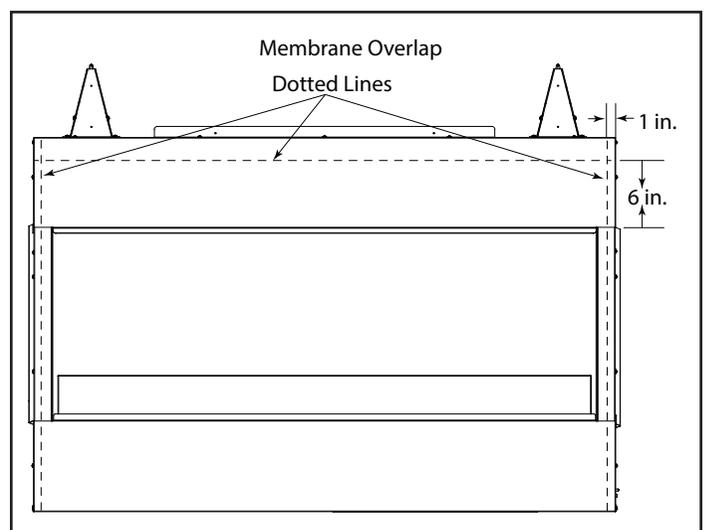

Figure 4.2. Membrane Overlap
**NOTE:** Use high temp silicone or sealant recommended by the manufacturer of the house wrap to seal between combustible sheathing house wrap and non-combustible sheathing. The sealant material used within 6 inches of the top and 1 inch on the sides of the appliance surround must be approved to withstand a minimum temperature of 225°F continuous exposure. House wrap tape with a 225°F minimum temperature may also be used. See Figure 4.2.